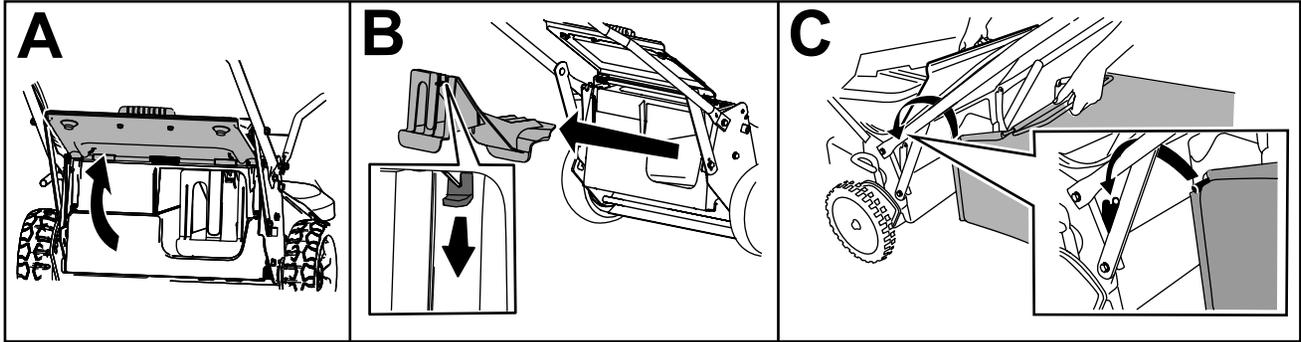

Figure 21
1. Raise and hold up the rear deflector (A of Figure 21).
2. Remove the rear-discharge plug by pulling down on the latch with your thumb and pulling the plug out from the machine (B of Figure 21).
3. Install the bag rod into the notches at the base of the handle, and rock the bag back and forth to ensure that the rod is seated at the bottom of both notches (C of Figure 21).